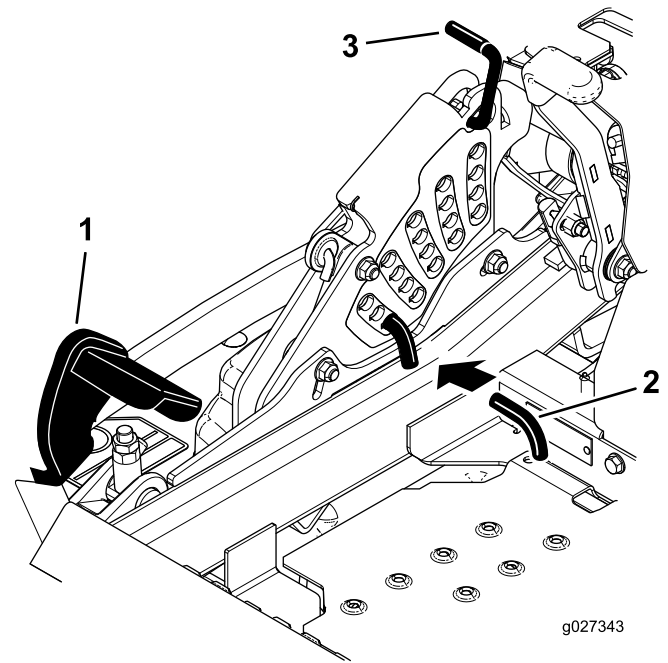

Figure 88
5. Push the deck-lift pedal all the way forward and the deck will latch at the 14 cm (5-1/2 inch) transport position (Figure 88).